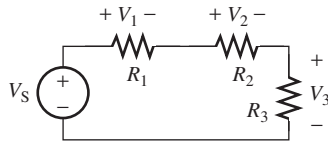

FIGURE P3.16 Circuit for Problem 3.16.
3.16 (B) Find V_1, V_2, V_3 in Figure P3.16.